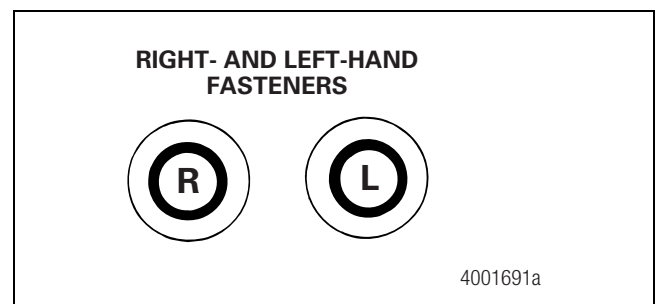

Figure 6.31
3. Check for **R** and **L** stamped in the end of the stud. Figure 6.31. Install right-hand studs onto the right side of the vehicle, and left-hand studs onto the left side of the vehicle.